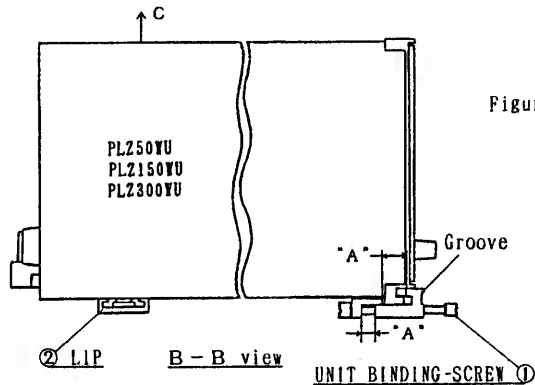

Figure 11-1
(This can be made by raising the unit in the C direction shown in Figure 11-1.)
1. The groove indicated with the asterisk in Figure 11-1 may be used for identification marks (such as "CH1", "CH2").